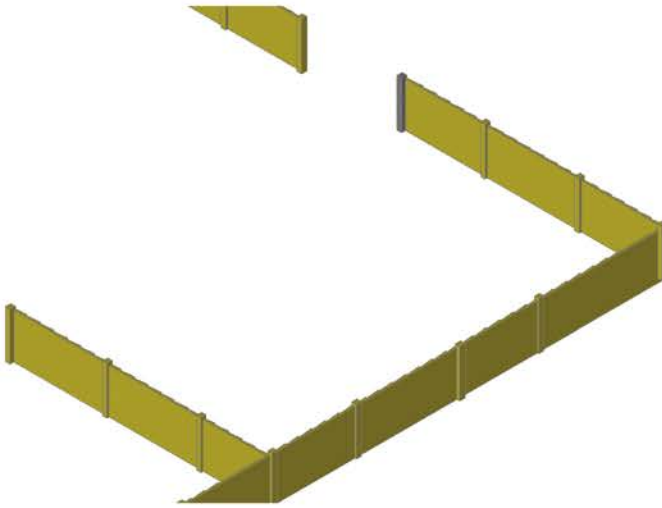

Fig. 17.23 Part of the fence
4. In the **Front** view, construct a single plank and a post of a fence and copy them a sufficient number of times to surround the four fields leaving gaps for the gates. With the **Union** tool form a union of all the posts and planks. Fig. 17.23 shows a part of the resulting fence in a **Realistic** visual style view in the **Isometric** viewport. With the **Union** tool, form a union of all the planks and posts in the entire fence.